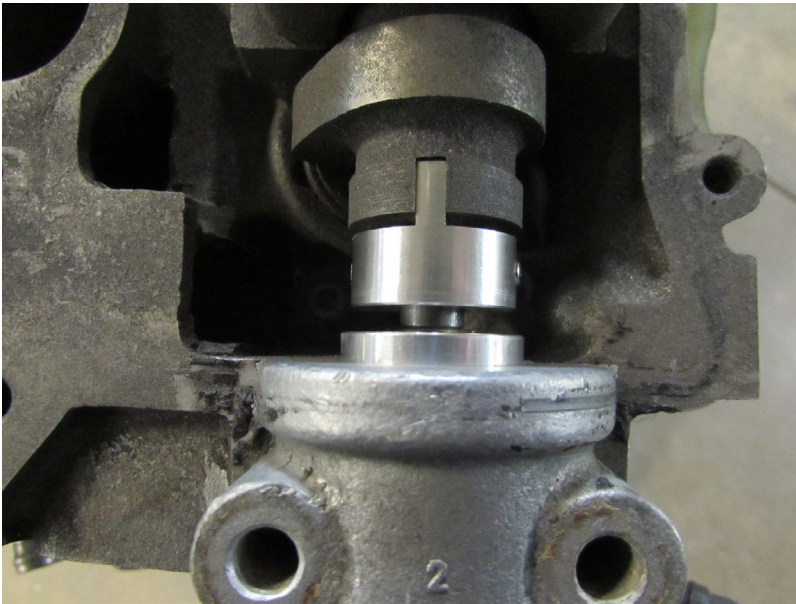
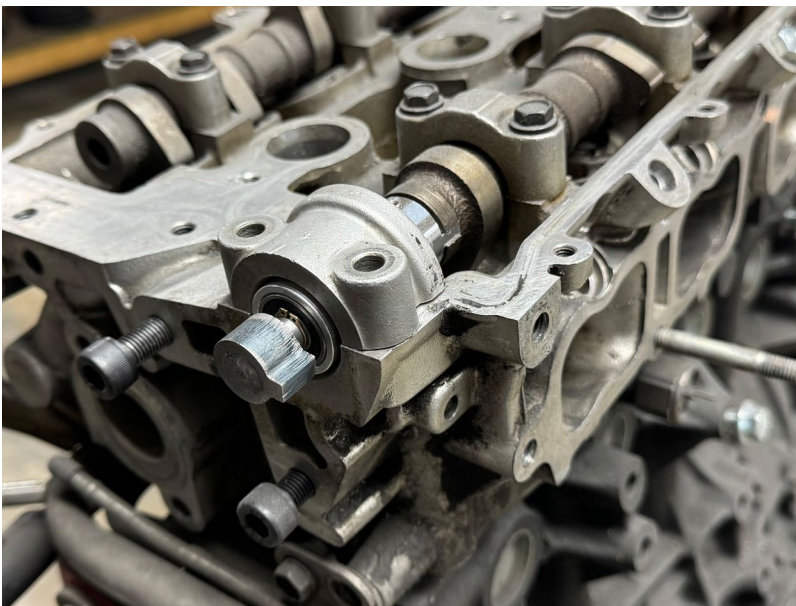

Figure 9
Figure 10
8. Install the cam trigger assembly into the intake cam key. Be sure the cam trigger is in the correct orientation, as the trigger is slightly offset. (Fig 9 and Fig 10)